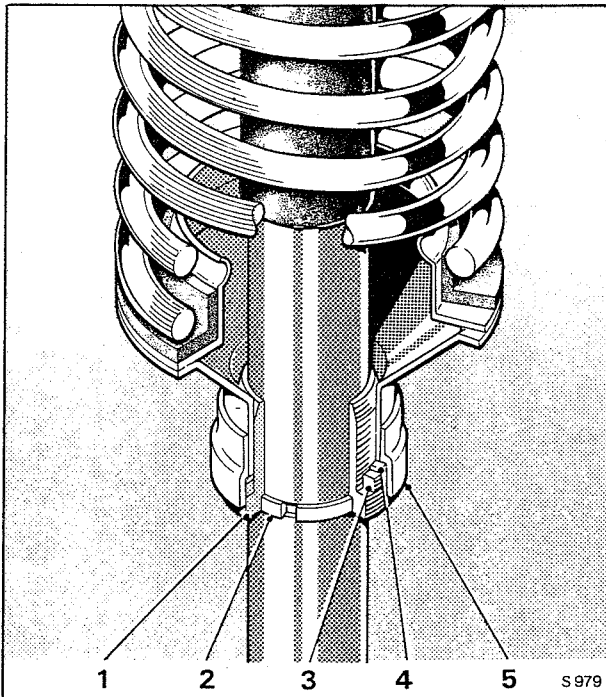

Fig. H19 Front height adjustment
5. Smear the collets with grease to hold them in position on the damper. Always ensure that the thinnest collets are fitted to the top of the selection (see Fig. H19).